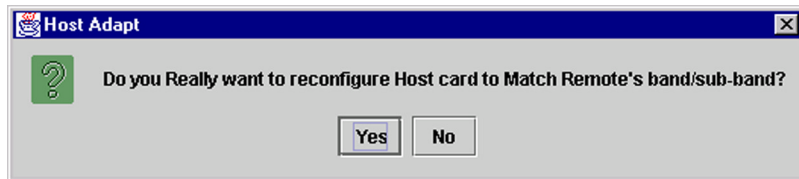

Figure 53. Host Adapt Warning
2. In response to the warning dialog shown in Figure 53, click on **Yes**. For normal operation, the host unit and remote unit must be set to the same band and sub-band.